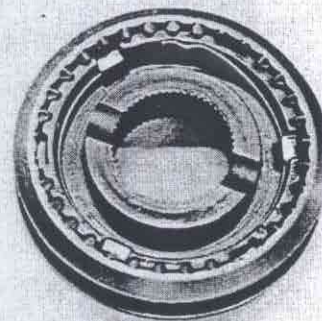

Fig. 43-173. Assembling synchronizing
2. Fit the interlock units in position and fit the spring, Fig. 43-173.